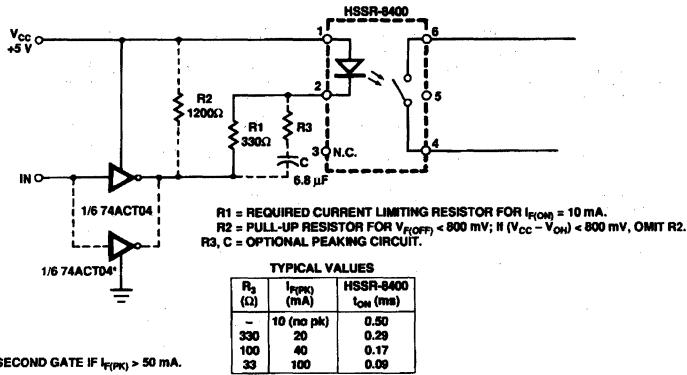

Figure 2. Recommended Input Circuit.
- For a faster turn-on time, the optional peaking circuit shown in Figure 2 may be implemented.